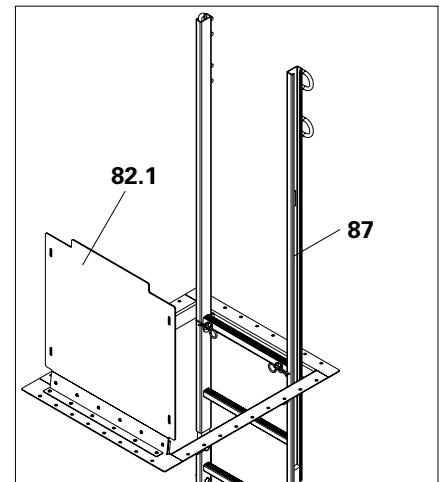

Fig. B5.12
2. Lift pre-assembled ladders (85 + 87) with the crane into the hatch (82) and lower so that the top rung of the ladder lies in the U-profile of the hatch.
- (Fig. B5.12)